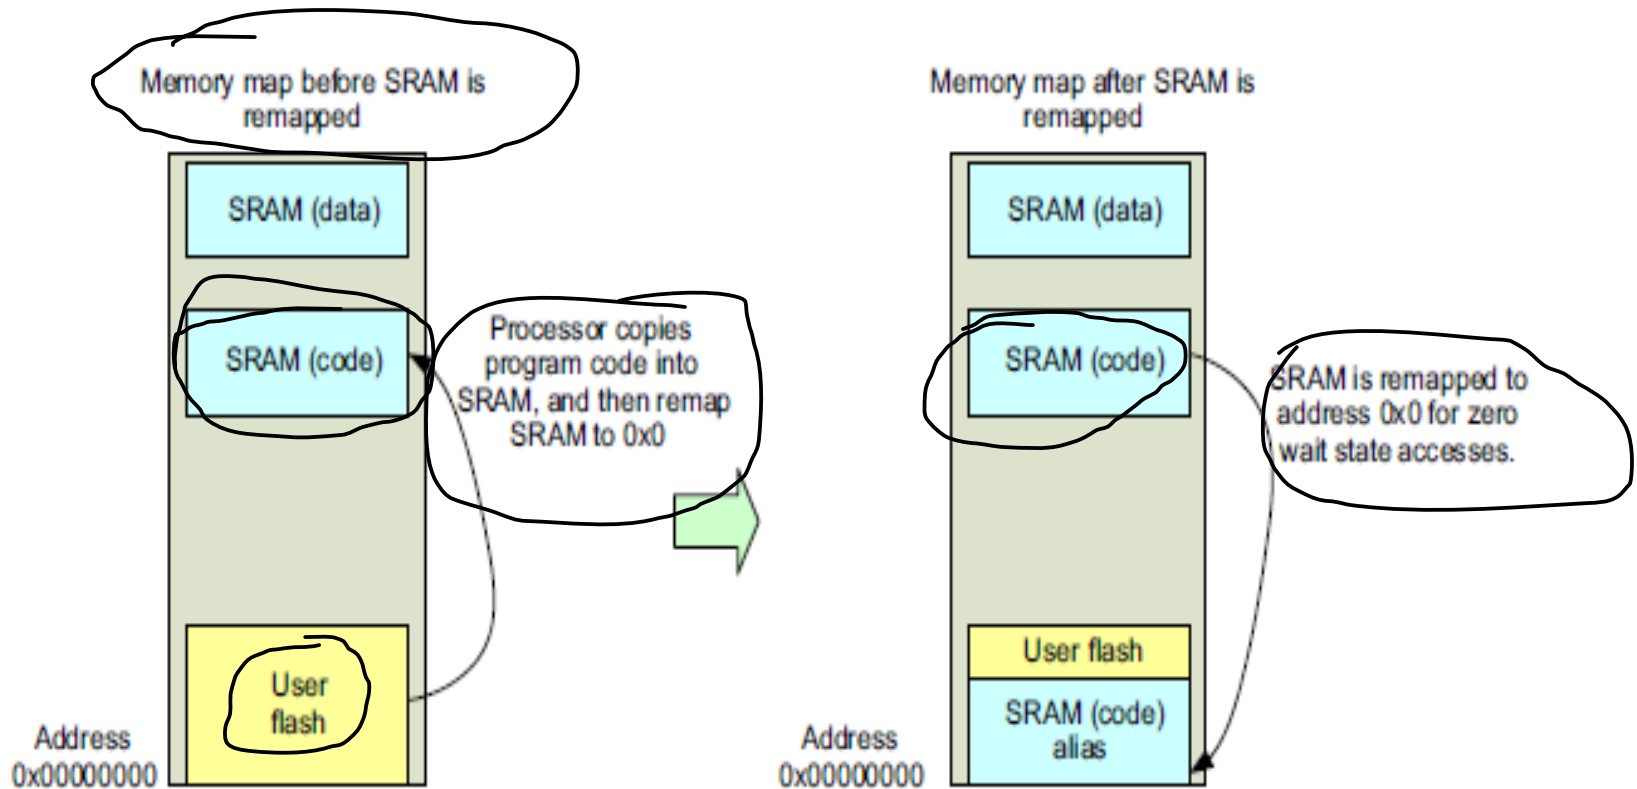

Figure 7.5:
- Another common type of remap feature implemented on some ARM microcontrollers allows an SRAM block to be remapped to address 0x0 (Figure 7.5).